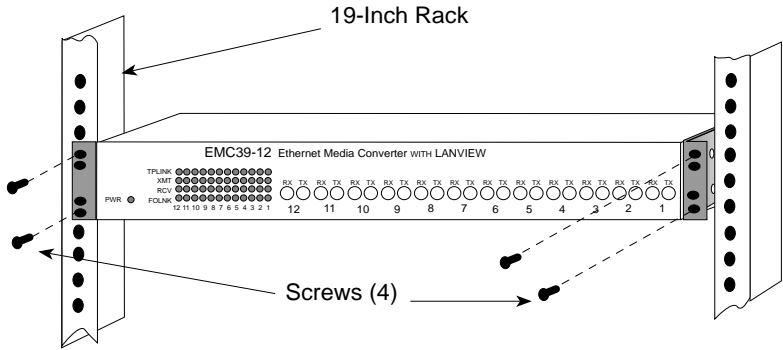

Figure 2-2 Installing the EMC39-12 in a 19-Inch Rack
- With the rack mounting brackets installed, position the EMC39-12 between the vertical frame members of the 19-inch rack and fasten it securely with the mounting screws as shown in Figure 2-2.